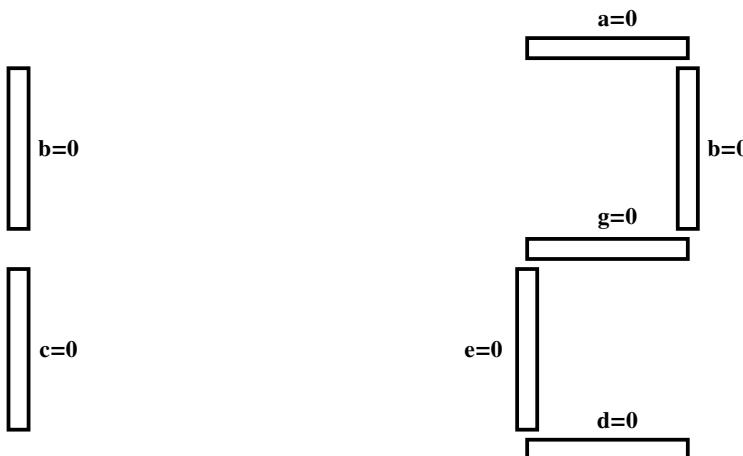

Fig. 2.3: Seven Segment connections
2.2.2 *Controlling the Display*: Fig. 2.3 explains how to get decimal digits using the seven segment display. GND=0.
3. Draw the numbers 0-9 as in Fig. 2.3 and complete Table 2.4